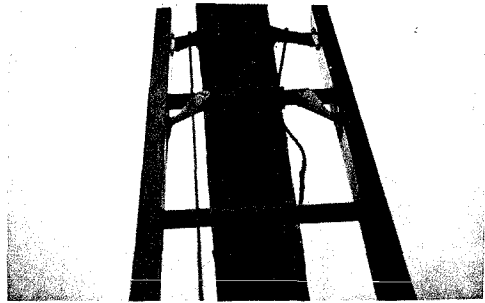

Fig. 11 — Top Lashed to Pole
- (d) Flip the handline over the end of the opposite side rail (see Fig. 11).